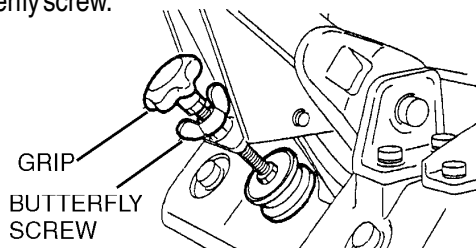

Figure 8. Handle Height Adjustment
1. Loosen the butterfly screw (Figure 8).